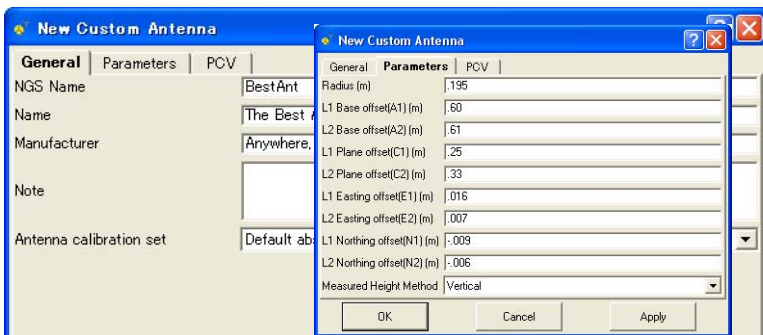

Figure 5-11. New Custom Antennas – General and Parameters Tabs
- On the **General** tab of the **New Custom Antennas** dialog box, edit the *NGS Name*, *Name*, *Manufacturer*, *Note*, and *Antenna calibration set* fields (Figure 5-11 on page 5-9). Then click **Apply** to save the information.
- On the **Parameters** tab of the **New Custom Antennas** dialog box, enter the *Radius*, *offsets*, and *Measured Height Method* parameters for the antenna (Figure 5-11 on page 5-9). Then click **Apply** to save the information.